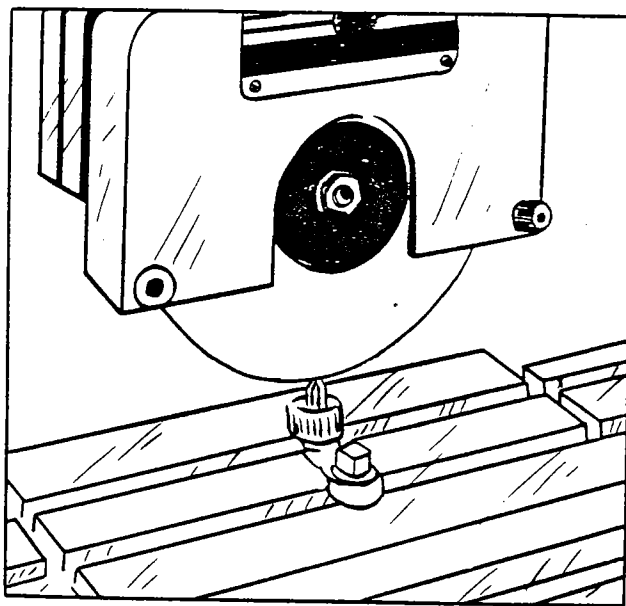

Fig. 5. Wheel truing fixture in use.
**Wheel Truing.** A wheel truing fixture is furnished with the machine. The truing diamond (furnished) may be applied to the wheel along any line on the lower half of the wheel circumference, though preferably at the bottom of the wheel as shown in Fig. 5. To prevent gouging, the center line of the diamond tool should point slightly beyond the center of the wheel in the direction of movement of the wheel surface.